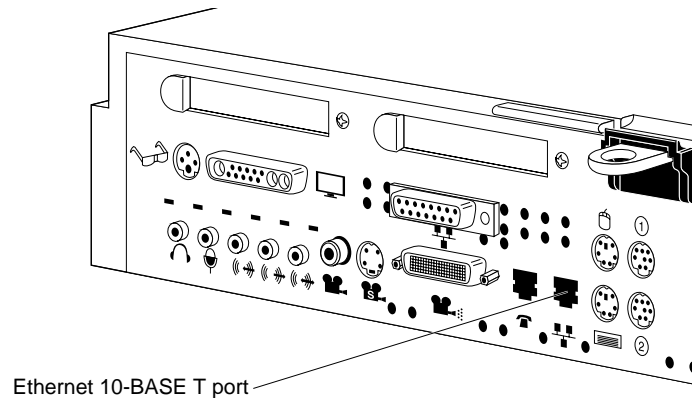

Figure 2-4 Connecting an Ethernet 10-BASE T Cable to the Indy Workstation
2. Plug one end of the cable into the port above the Ethernet icon on the back of the Indy workstation, as shown in Figure 2-4.